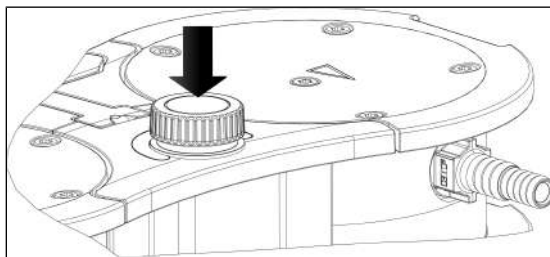

Fig. 6: Switching the pump on and off with rotary/push knob
- Switch on the pump by pushing the rotary/push knob (see Fig. 6).